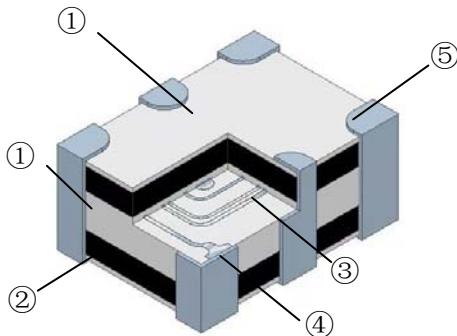

Fig. 4-4
- 4) Structure: See Fig. 4-4 and Fig. 4-5.